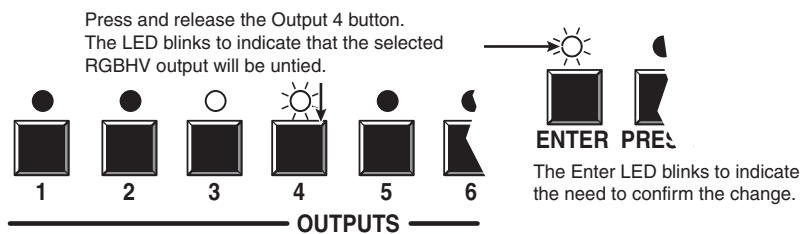

Figure 3-18 — Deselect the output
- Press and release the Output 4 button (figure 3-18).